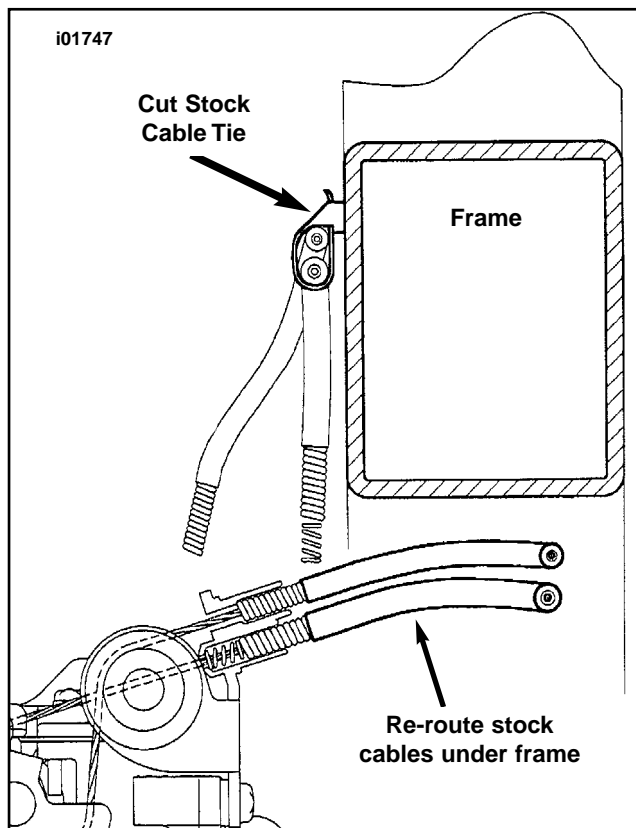

Figure 3. Throttle Cable routing under Frame
1. Refer to the Figures 3 and 4 and your applicable Service Manual to begin throttle cable installation. Start by connecting the idle cable then the throttle or opening cable.